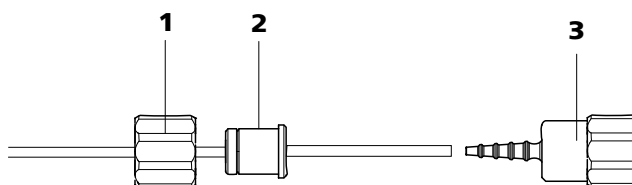

Figure 30 Install pump tubing connection without filter
- **Case B:** a 6.2744.160 pump tubing connection **without filter** (see figure 30, page 54).